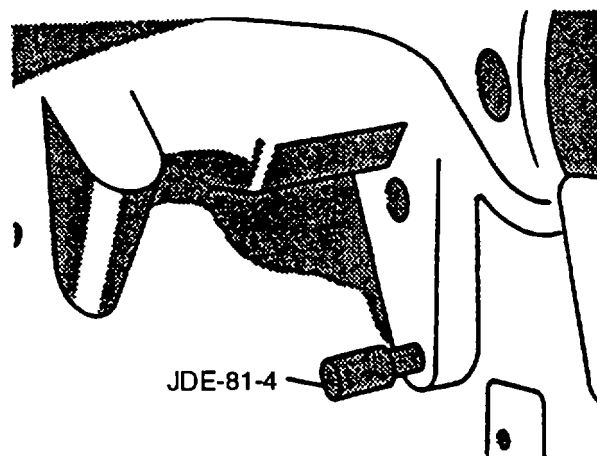

FIGURE 3-117. Installing Timing Pin
- b. Using center bolt on harmonic balancer, rotate crankshaft clockwise and observe No. 1 pushrods. When both pushrods can be rotated freely engine is on compression stroke. Continue to rotate engine until timing pin (JDE-81-4) can be installed in flywheel, refer to FIGURE 3-117.